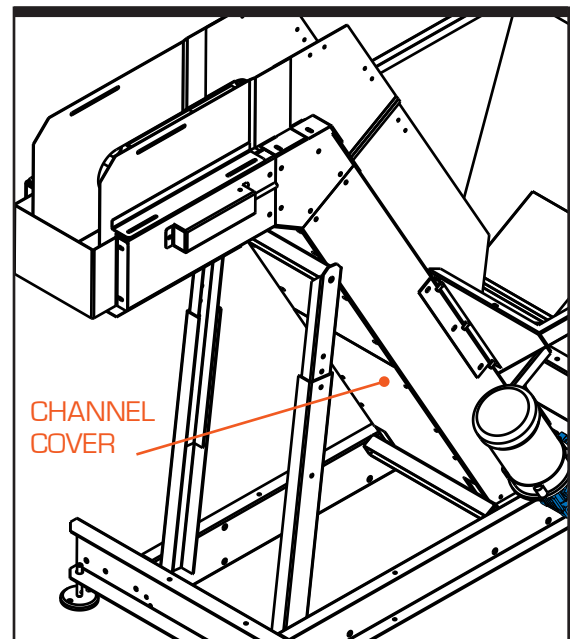

Figure 3-4. Channel Cover
- Step 4. Remove Channel Cover.** Located on the underside of the prefeeder's elevator is a cover over the belt return (Figure 3-4). Undo the four hex bolts that hold the upper cover plate in place, and set the plate aside. Now pull the belt down from the prefeeder's head, and let the belt hang.